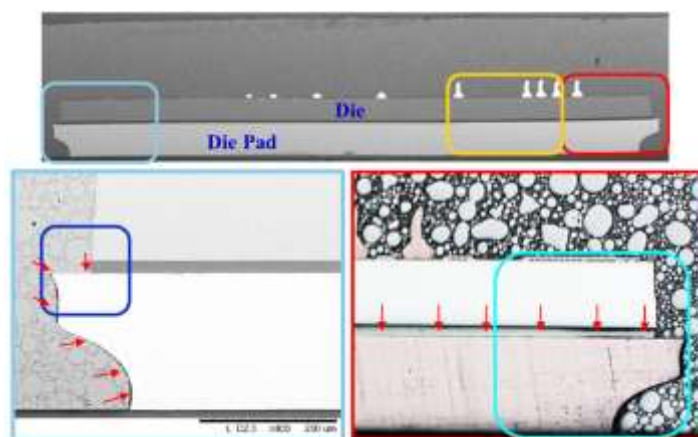

Fig. 2. QFN package leadframe interface delamination and package crack.
- One common problem encountered with higher DPR is leadframe interface delamination and package crack as shown in Fig. 2.